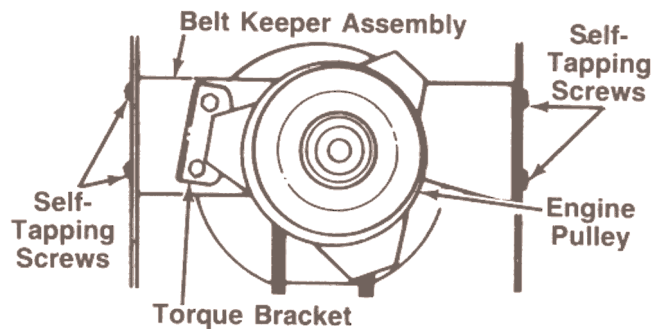

FIGURE 23.— Model 734G
MODEL 734G (See Figures 23 and 24)
6. Remove the torque bracket by removing two hex bolts and washers. See figure 23.
7. Remove the belt keeper assembly by removing the four self-tapping screws which hold the belt keeper assembly to the frame at the engine pulley. See figure 23.